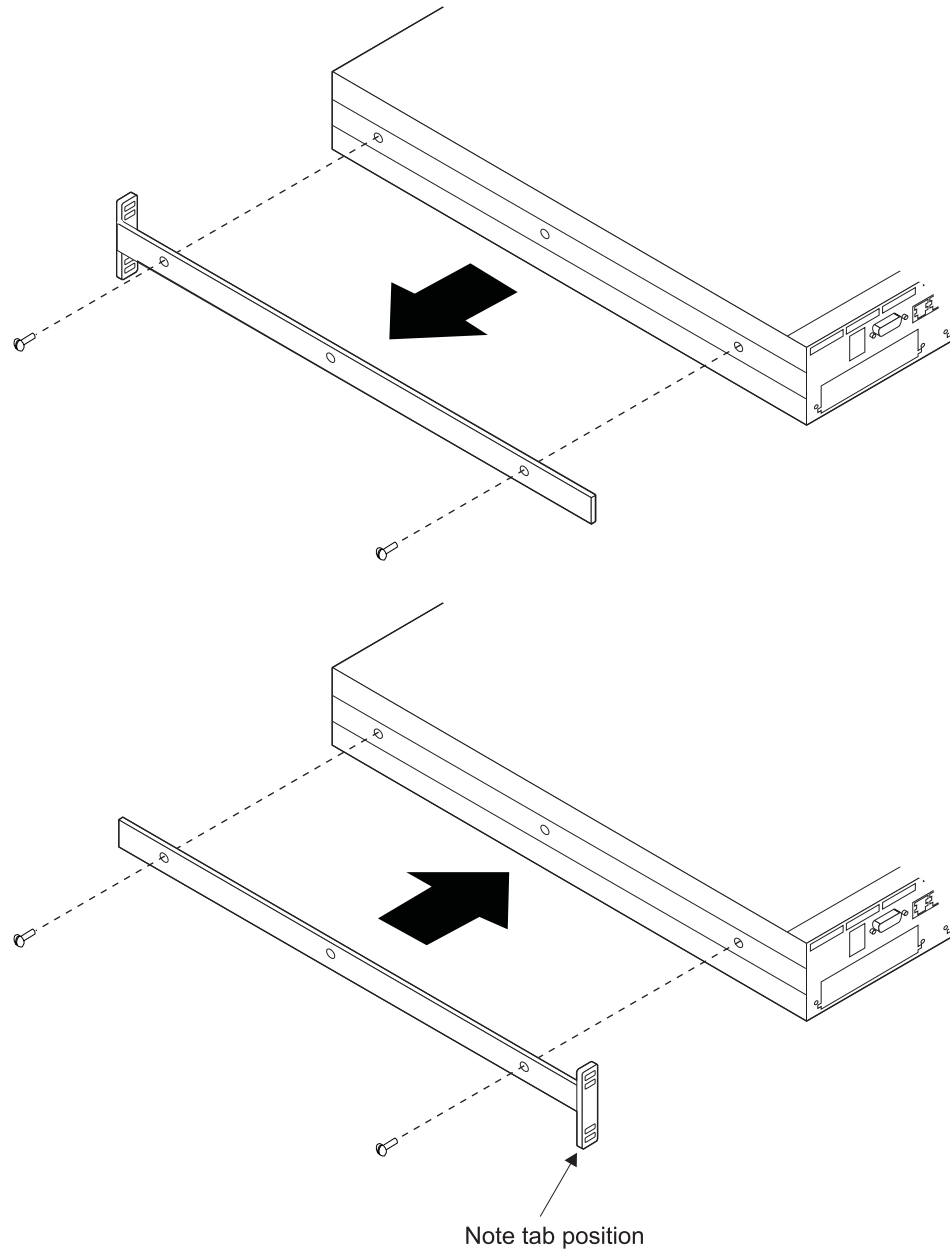

Figure 2-1. Rotating the Rack-Mounting Brackets
1. Using a Phillips screwdriver, remove the four screws, two on each side, that attach the mounting brackets to the sides of the 8239, as shown in Figure 2-1.